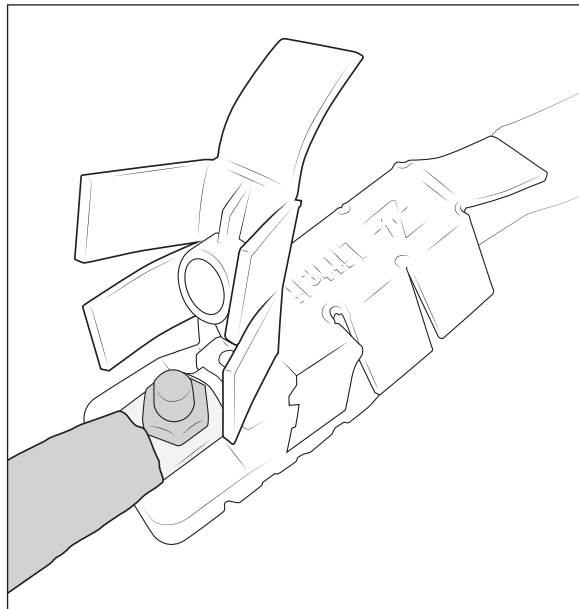

Figure 9
1. Remove in-line fuse attachment from the harness (fig. 9).